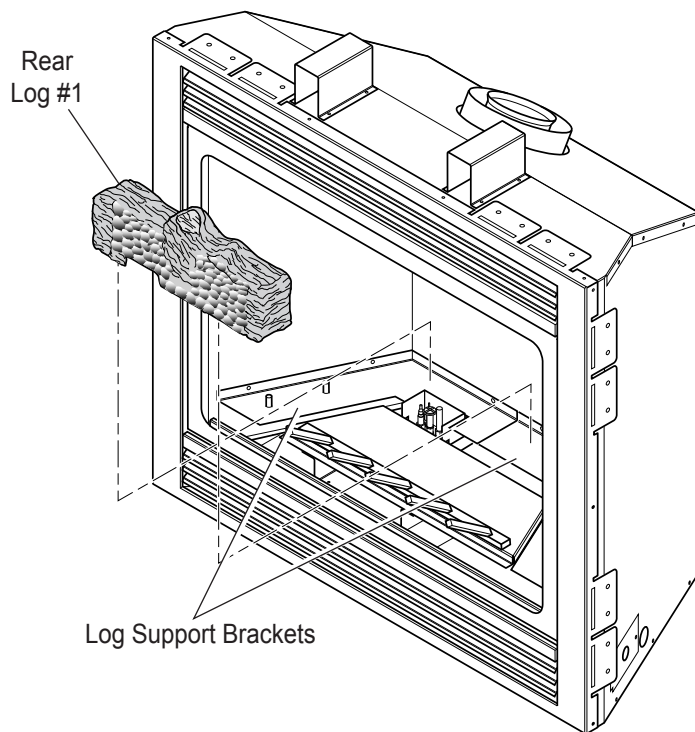

Figure 38 - Placing Rear Log (#1) on Log Support Brackets
1. Place rear log (#1) behind burner on two log support brackets. See *Figure 38*.